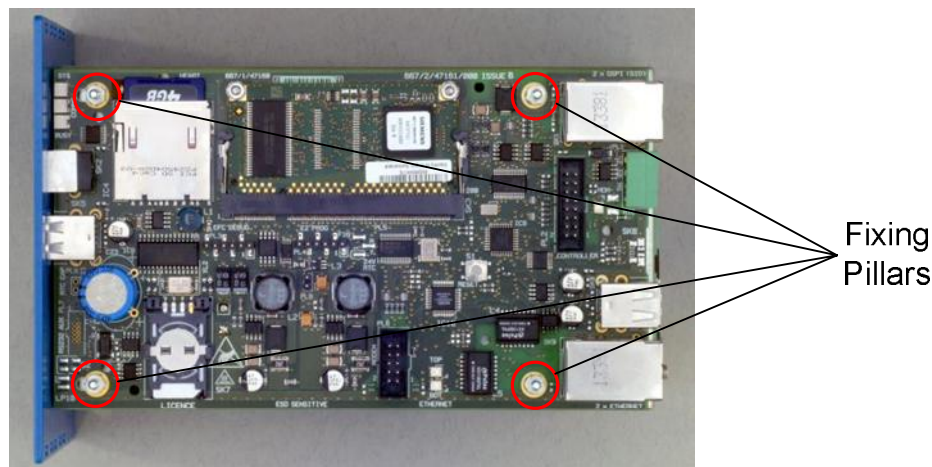

Figure 20 – CPU Board Fixings
2. Unscrew the four short pillars (or long + short mounting pillars if an I/O board was fitted) shown in Figure 20 below.